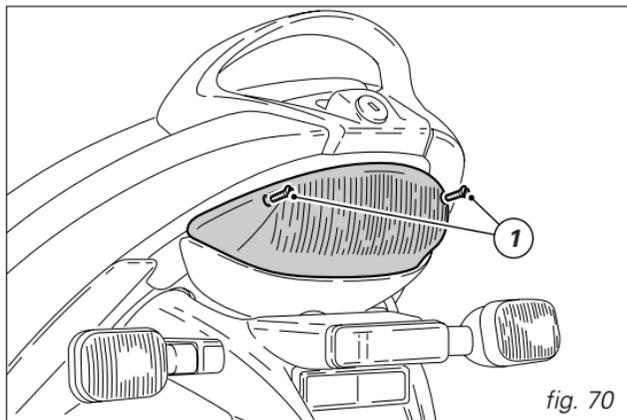
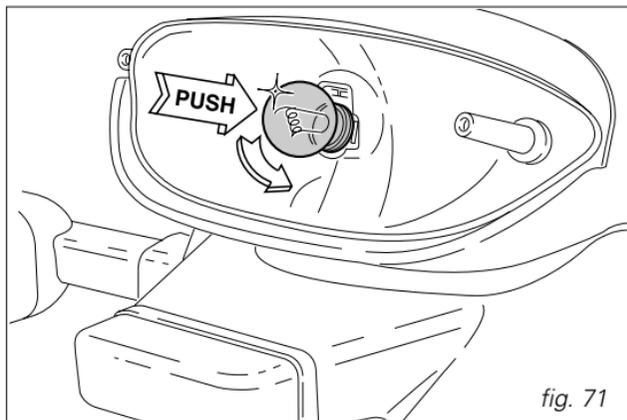

fig. 70
fig. 71
To replace the stop and parking light bulb, unscrew the two screws (1, fig. 70) that secure the glass and remove glass. The bulb is of the banjo-type: press and rotate anti-clockwise to remove; fit the spare bulb by pressing and turning clockwise until it clicks (fig. 71). Refit the glass and tighten the screws (1).